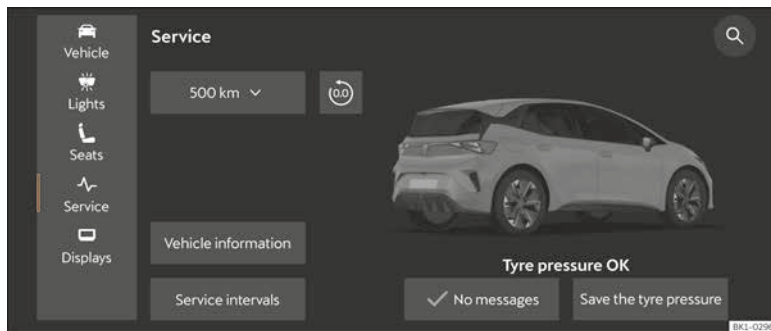

Fig. 14 Schematic representation: Vehicle settings.
- **Service:** shows fault and incident messages, tyre pressure memorisation, or information on the next inspection service >>> **Fig. 14**.